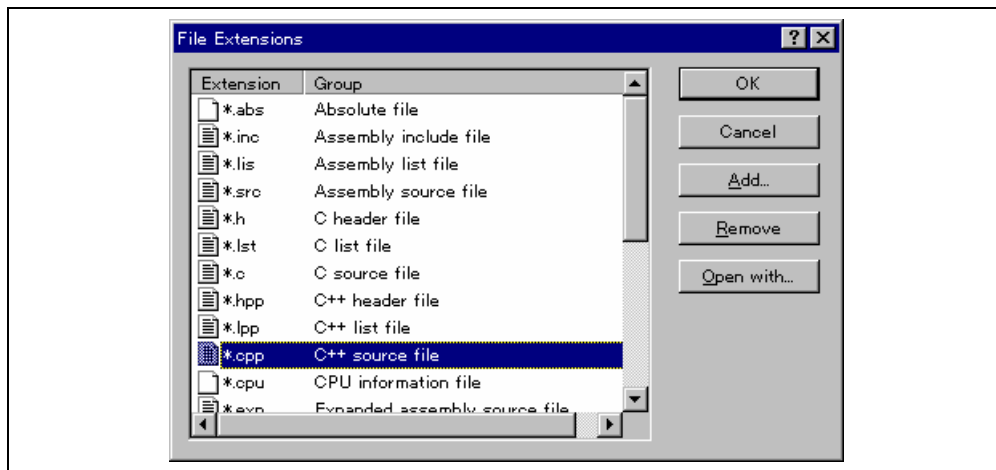
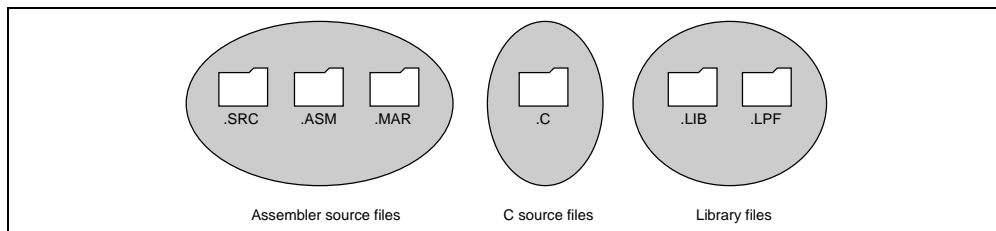

Figure 2.7: File Extensions Dialog
Figure 2.8: File Extensions and Groups
File extensions and file groups can be viewed and modified via the “File Extensions” dialog (figure 2.7). This is invoked by selecting **[Project->File Extensions...]**. This dialog displays all of the extensions and file groups, which are defined within the current workspace.
The “File Extensions” list shown in figure 2.7 is divided into two columns. On the left are the file extensions themselves, whilst on the right are the file groups. Many file extensions can belong to the same group. For example, assembler source files may have several extensions in a single project (e.g. .src, .asm, .mar etc) as shown in figure 2.8.
1. Select [**Project->File Extensions...**] from the menu bar. The “File Extensions” dialog will be displayed (figure 2.7).